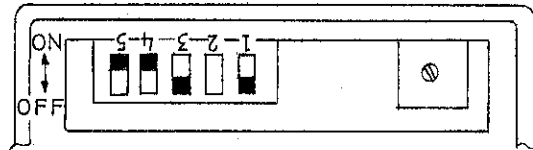

Figure 2-6. DIP Switch Programming (11.8 V L-L Synchro)
A DIP switch, located on the Analog CCA and accessible from the rear of the unit (figure 2-6), is used to program L-L voltages and selection of synchro or resolver. Table 2-3 provides programming data.
- (1) Select 115 V, 400 Hz reference input
- (2) Select Resolver mode
- (3) Select 11.8 V Line-to-Line output
- (4) Set front panel leverwheel switches to 000.00 degree
b. Set Model 801 rear panel programming DIP switch as follows (refer to table 2-3 and figure 2-6):
- (2) Select Synchro mode
- (3) Select 90 V Line-to-Line output
- (4) Set front panel leverwheel switches to 000.00 degree.